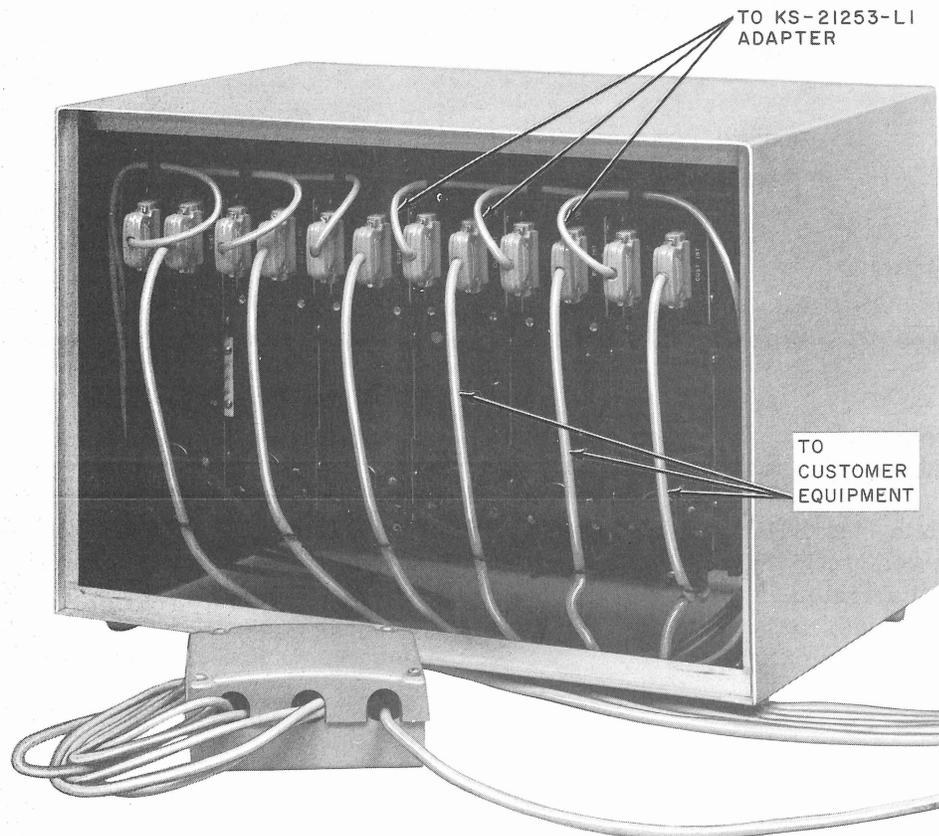

Fig. 1—Rear View of Six Data Sets 201C in a KS-20018-L12A Cabinet Showing Cable Routing
4.09 Connect cables and route as shown in Fig. 1 and 2. Secure cables to customer equipment with cable ties on the data mounting and route downward and out of the cabinet. Route the M8K or M13F telephone interface cables to the top of the data mounting and fasten them with the neoprene cable clips. Then route the telephone cables to the right and left, as shown in Fig. 1 and 2, and out of the cabinet. Connect the power cord to the twist-lock connector on the data sets.